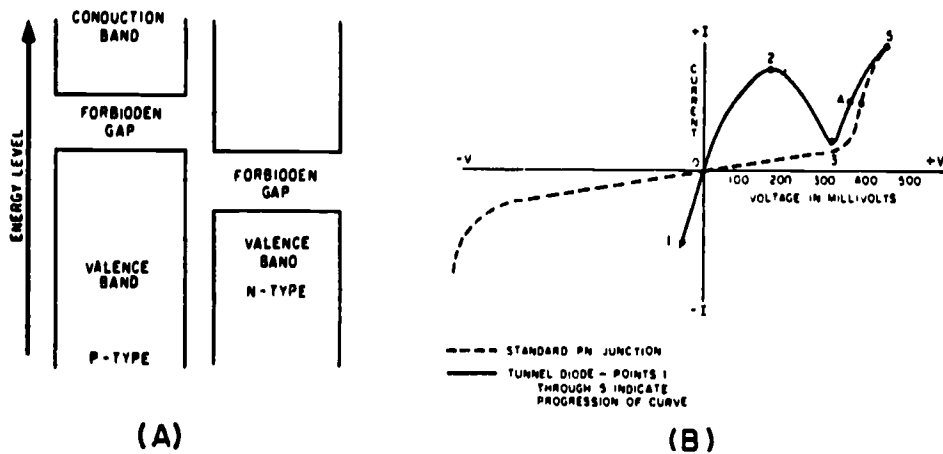

Fig 3-8. Tunnel diode energy diagram with 450 millivolts bias.
Figure 3-8, view (A), is the energy diagram of a tunnel diode in which the forward bias has been increased to 450 millivolts. As you can see, the valence band and conduction band no longer overlap at this point, and tunneling can no longer occur. The portion of the curve in view (B) from point 2 to point 3 shows the decreasing current that occurs as the bias is increased, and the area of overlap becomes smaller. As the overlap between the two energy bands becomes smaller, fewer and fewer electrons can tunnel across the junction. The portion of the curve between point 2 and point 3 in which current decreases as the voltage increases is the negative resistance region of the tunnel diode.